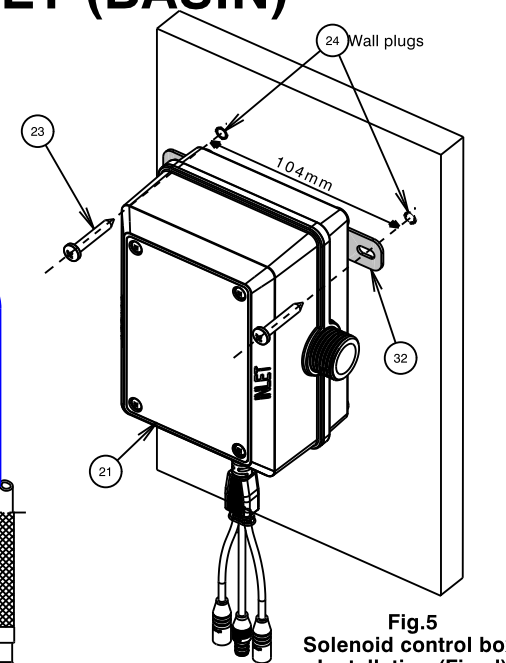

Fig.5
- i) Drill two Ø6mm holes horizontally at 104mm apart as shown in Fig. 5.
- ii) Insert small end of wall plugs (24) into drilled holes and tap until flush with wall/tile face.
- iii) Align the slots on fixing plate (32) with the holes on the wall, pass the screws (23) through the slots and insert into the wall plugs (24). Then tighten the screws. DO NOT OVERTIGHTEN.
- i) Drill two Ø6mm holes, 40mm deep and 104mm apart horizontally as shown in Fig. 5.
- i) Drill two holes at 104mm apart horizontally to suit the self tapping screws supplied as shown in Fig. 5.
- ii) Align the slots on fixing plate (32) with the holes on the wall, pass the screws (23) through the slots and insert into the wall plugs (24). Then tighten the screws. DO NOT OVERTIGHTEN.